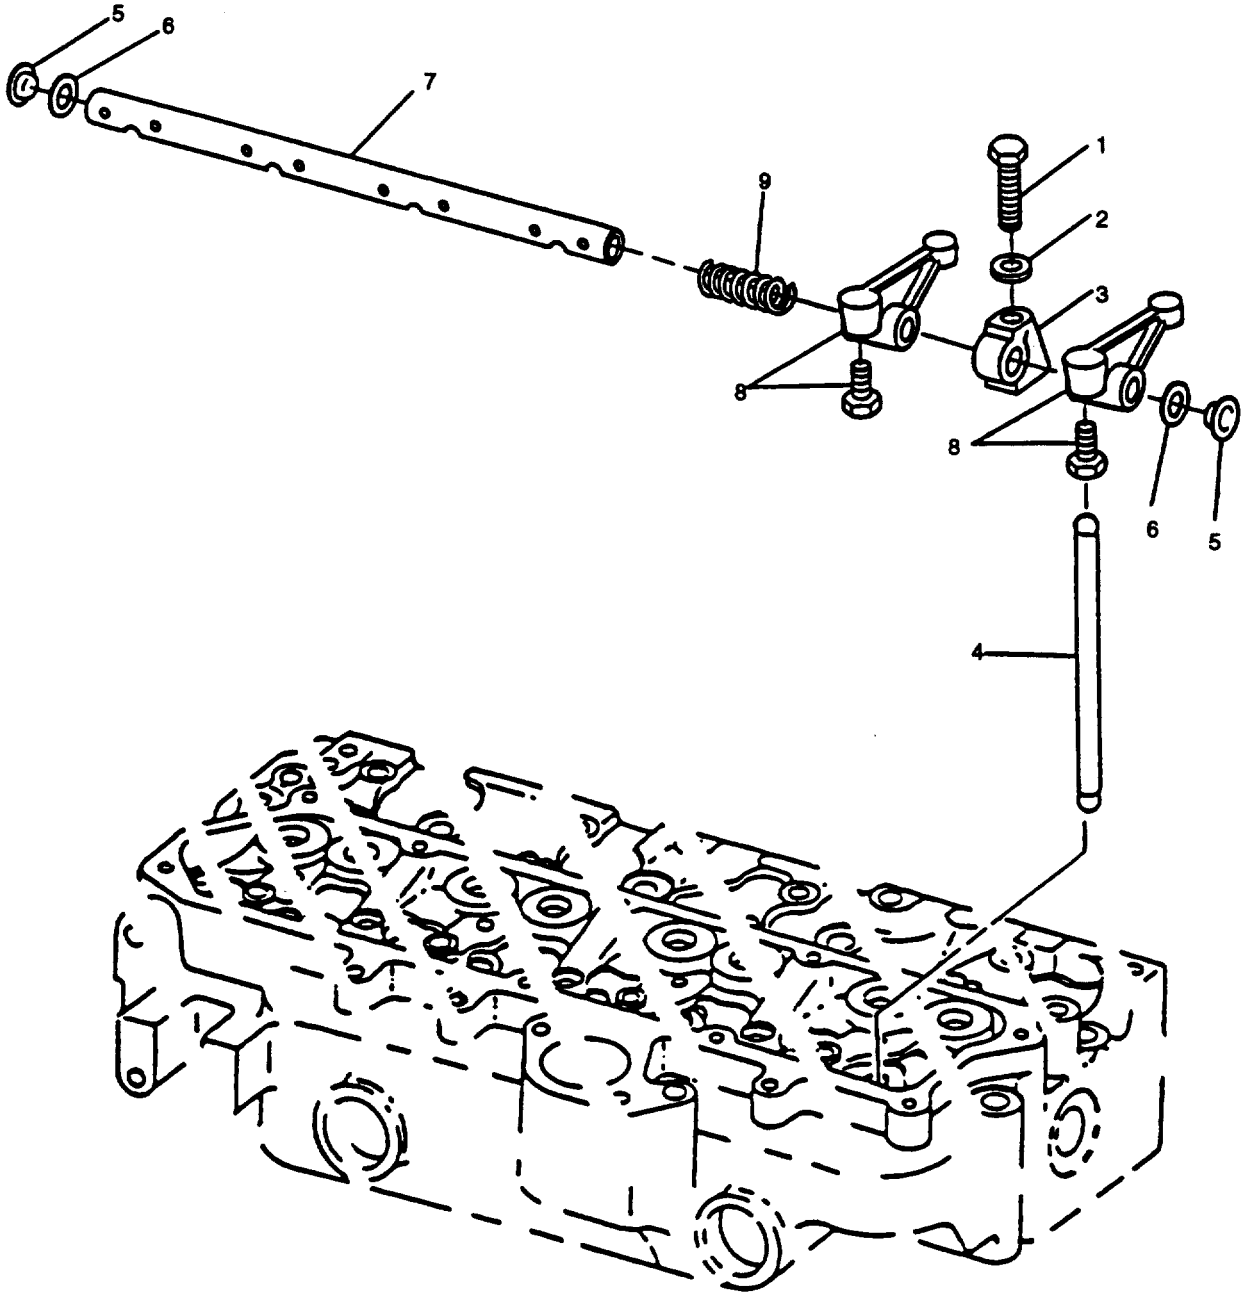

FIGURE 3-98. Rocker Arm Assembly
**Capscrews (1, FIGURE 3-98) must be loosened sequentially, a little at a time, to prevent warping of shaft (7).**
- b. Remove four capscrews (1) and washers (2) securing four supports (3) to cylinder head; remove rocker arm assembly from head.
- c. Remove eight pushrods (4) and tag them as to their location. This will aid in installation.
- a. Remove plug (5, FIGURE 3-98) from one end of shaft (7). Remove two spring washers (6).
- a. Lubricate OD of shaft (7, FIGURE 3-98), bores of rocker arms (8), and supports (3) with clean engine lubricating oil (MIL-L-2104).
**Make sure during assembly that main oil supply hole on rocker arm shaft (7) faces flywheel end, to avoid engine damage.**
- b. Slide spring (9), rocker arms (8), and rocker arm supports (3) onto shaft (7). Assemble in same order as they were before disassembly.
- c. Install spring washers (6) and plugs (5) on shaft (7). Plug must be firmly seated against end of shaft.
- a. Install pushrods (4, FIGURE 3-98) in same location from which they were removed.
**Make sure that oil supply hole of rocker arm shaft (7) faces flywheel end of engine and faces downward when rocker shaft is installed, to avoid engine damage.**
- c. Lubricate all rocker arms (8) with engine lubricating oil (MIL-L-2104) and make sure they move freely.
- d. Position six supports (3) and secure with capscrews (1) and washers (2). Tighten capscrews to 35 ft-4bs (47 Nm).